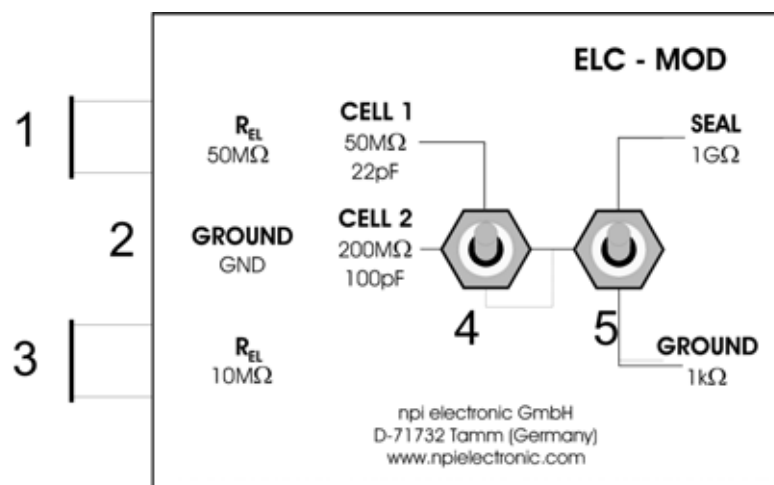

Figure 5: ELC-MOD passive cell model
- Set switch #4, Figure 5 to the lower position.
- Set switch #5, Figure 5 to GROUND position. The 1 k Ω resistor simulates the resistance of the bath solution. This can be used to train cancellation of offsets, using the bridge balance and using the capacity compensation.
- Set switch #5, Figure 5 to SEAL position. The 1 G Ω resistor simulates the SEAL resistance when forming a GIGASEAL in patch clamp experiments.
Intracellular recordings can be mimicked with one of two cells with different properties. Use the 50 M Ω electrode connector (#1, Figure 5) for an experiment with sharp electrodes or the 10 M Ω electrode connector (#3, Figure 5) for simulating an experiment with patch electrodes.
- Switch the CELL membrane switch (see #4, Figure 5) to the desired position (CELL 1 or CELL 2).